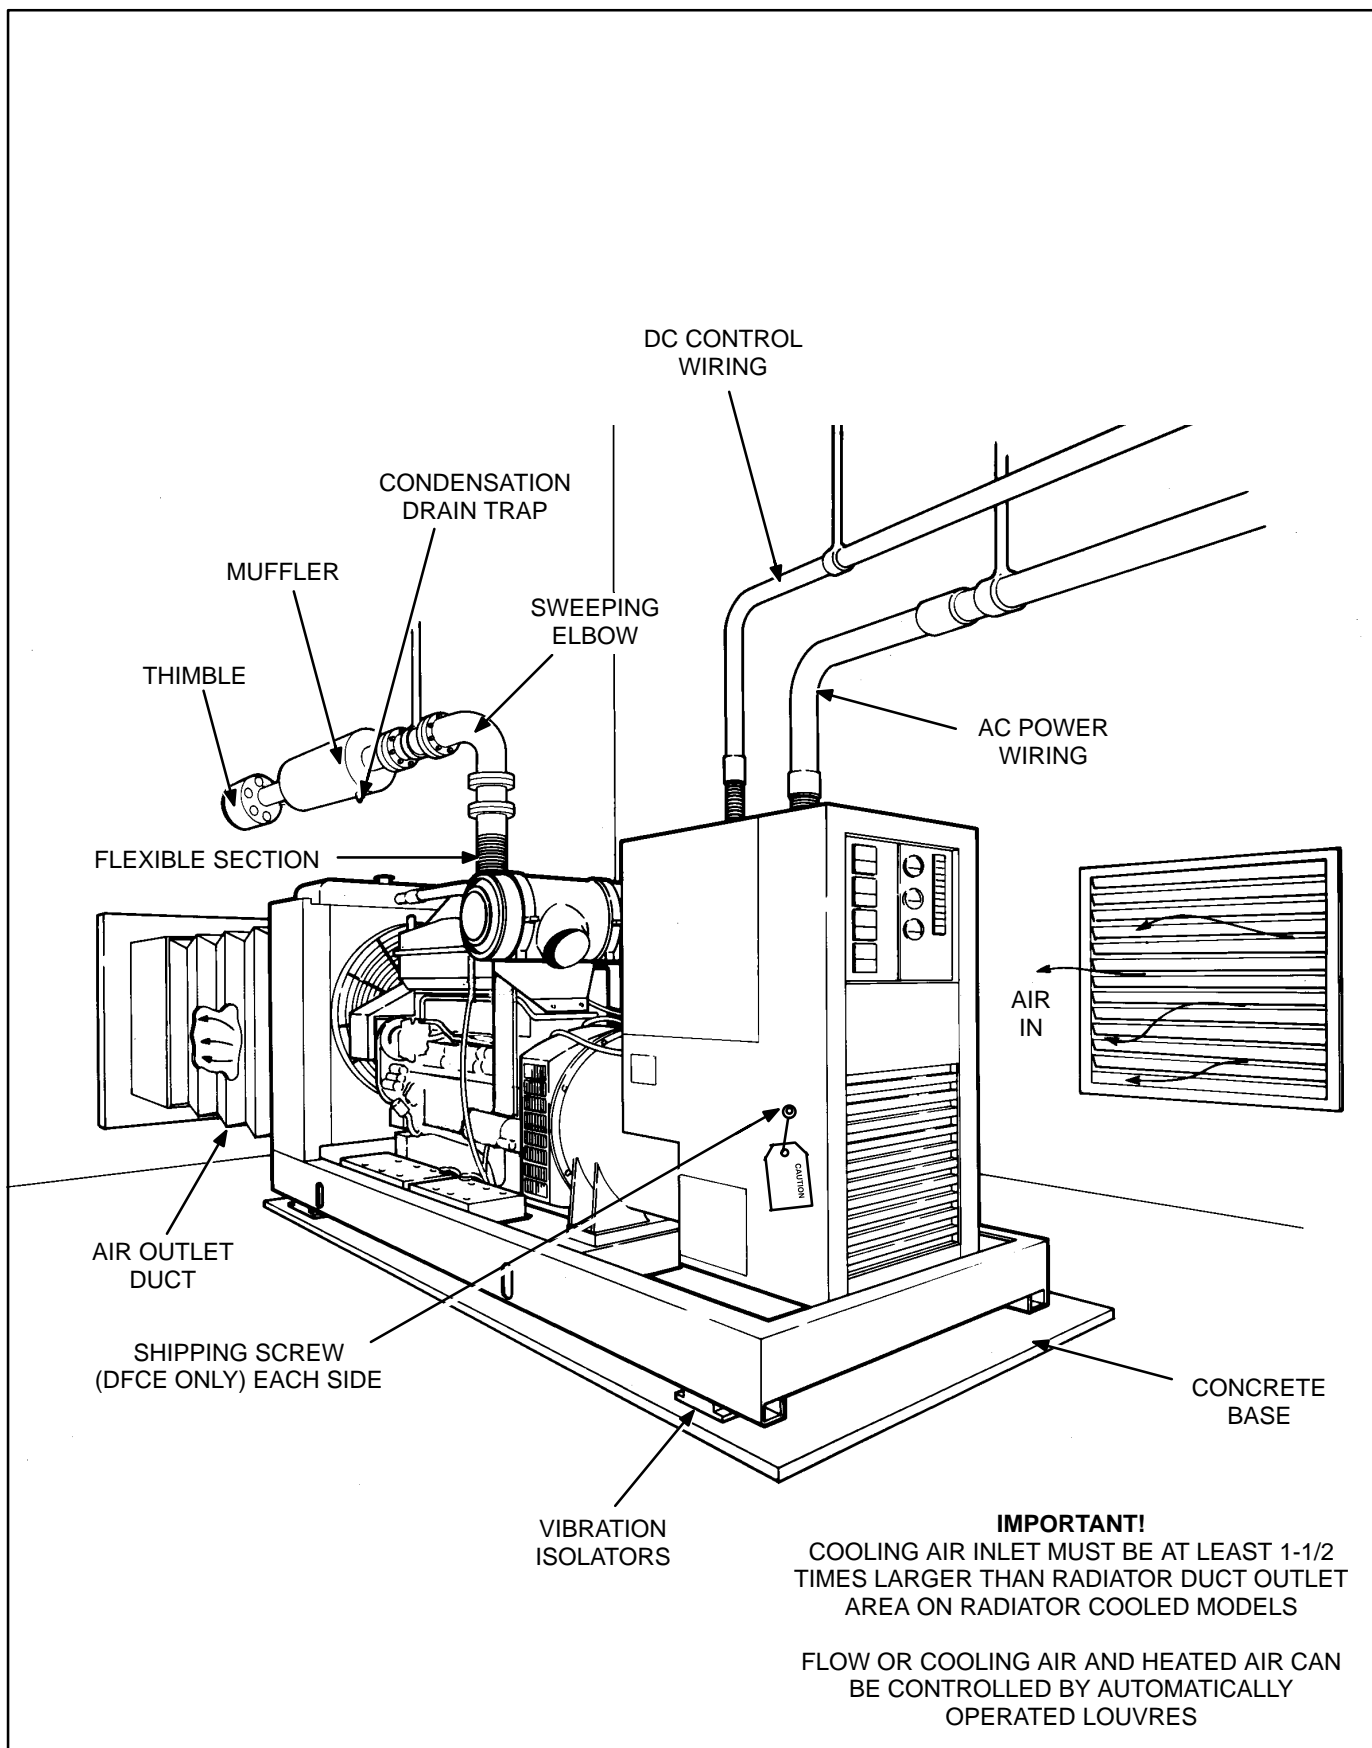

FIGURE 3-2. TYPICAL INSTALLATION
7. Model DFCE only: With the genset in position and secured to the isolators, remove the two controller cabinet shipping screws (see Figure 3-2).